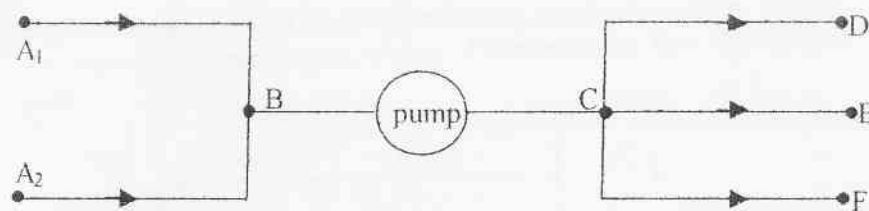

Fig T2.10
10. Water is handled by a system of pipes as shown in Fig T2.10, the details being as flows.